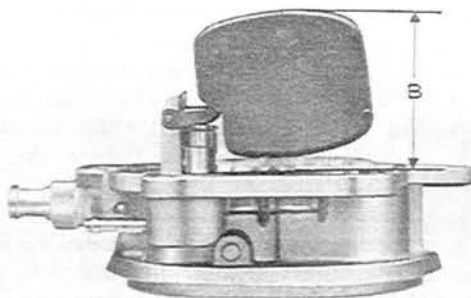

Fig. 4-9 Float level adjustment
Then adjust the fuel level by means of the washer at the fuel inlet, so that the distance (B) between the upper face of the float and the lower face of the air horn is 46 ~ 47 mm (1.8 ~ 1.9 in), as shown in Fig. 4-9. Under this condition, fuel level is kept at the center of the bowl cover.